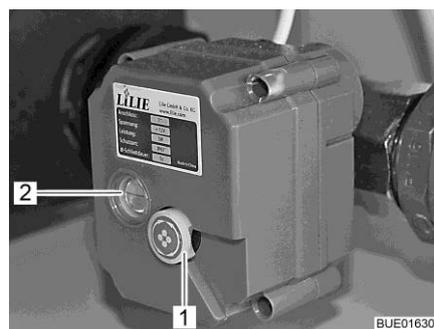

Fig. 148 Electrically operated drainage valve
A red line in the inspection window (Fig. 148,2) of the electrically operated drainage valve shows the valve setting:
- Pull out the rotary knob (Fig. 148,1) on the electrically operated drainage valve and rotate (in any direction).